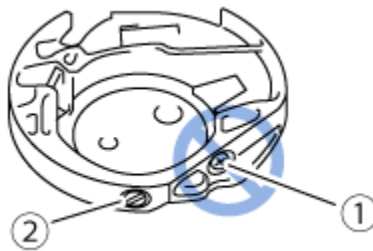

Figure 3: Bobbin Plate
If the desired level of tension is not attained through upper thread tension dial then try to adjust the lower thread tension by tightening the screw in the bobbin case. (See Fig 3) (1) and (2) show the screws.